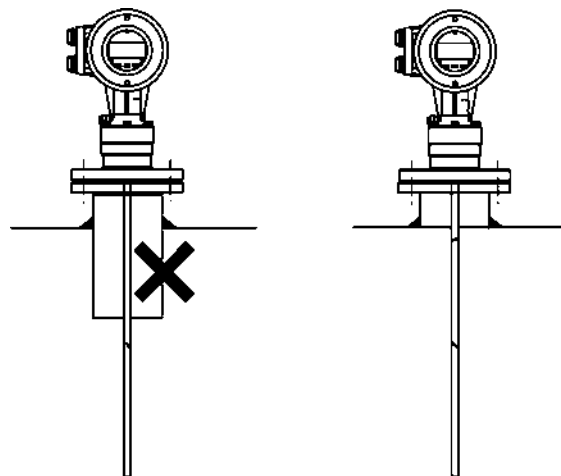

Figure 11
**⚠** Do not use nozzles that extend into the vessel. This will block the emitted pulse. Refer to Figure 11.